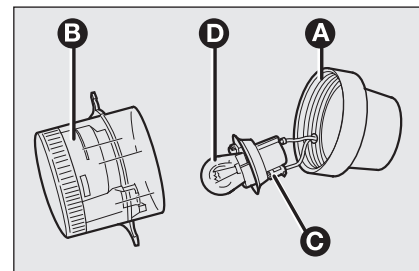

fig. 20
- remove the cap **A**-fig. 20 from the lens **B** and remove the bulb holder **C**;